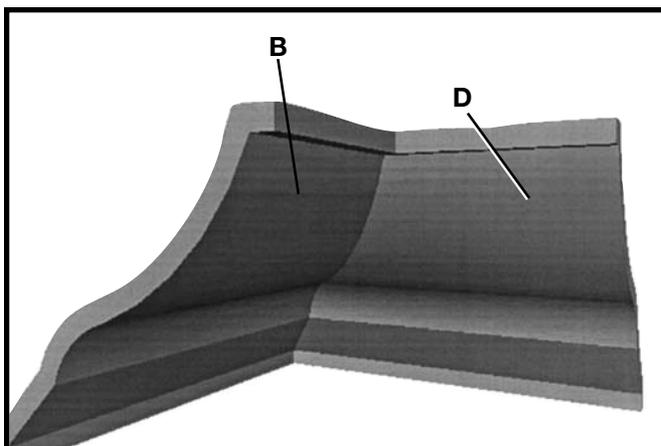

Fig. 42
7. Fig. 42, illustrates the two inside corner pieces; (B) being the piece cut at (B) Fig. 42, and (D) being the piece cut at (D) Fig. 42.